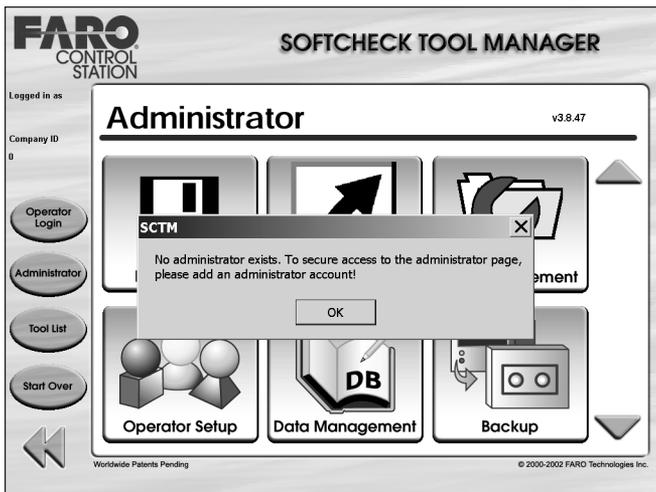

Figure 2-1 Initial Administrator Login Screen
- 1 Touch the ADMINISTRATOR button on the Opening Screen. Since an account has not previously been created, a message prompts you to add an administrator account so you can access to the Administrator screen. See Figure 2-1, "Initial Administrator Login Screen." Touch OK on the message.